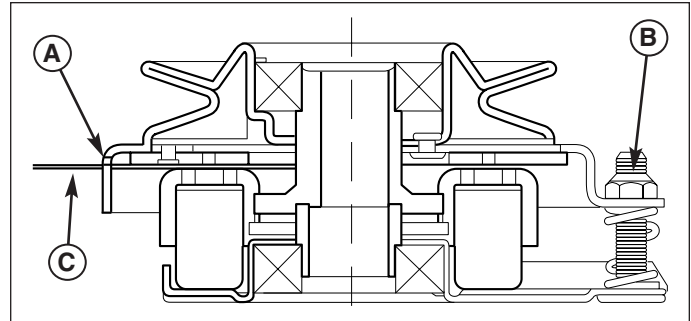

Figure 20. Adjust PTO Clutch
- Insert a .016"-.018" (0,40-0,45mm) feeler gauge (C) through each window, positioning the gauge between the rotor face and the armature face as shown in Figure 20.